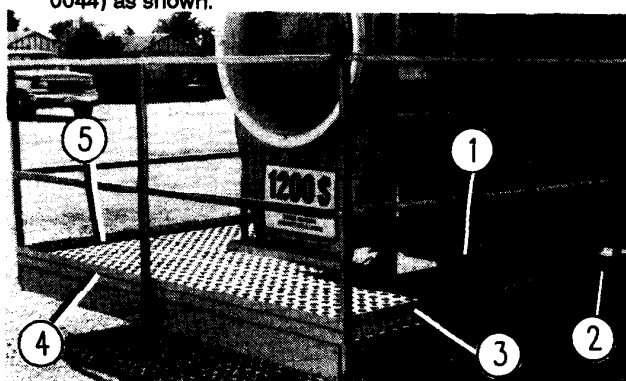

FIG. 9 - PLATFORM TOE BOARD ANGLES.
- A. Connect two left-hand outer rear toe boards (No. 2 Fig. 9, D61-0045) as shown in Fig. 9.
- B. Connect the left-hand inner rear toe board (No. 1, Fig. 9, D61-0046) as shown.
- C. Connect two left-hand front toe boards (No. 3, Fig. 9, D61-0044) as shown.
- D. Connect two right-hand outer toe boards (No. 5, Fig. 9, D61-0042) as shown.
- E. Connect two outer front toe boards (No. 4, Fig. 9, D61-0043).